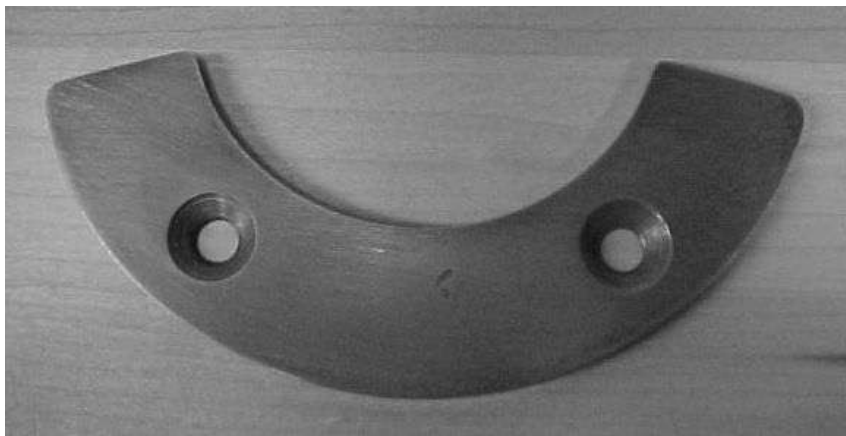

Figure 4
4. Clamp the Plate to drill press table and using a countersink tool, machine the two holes (one side of Plate only) such that the supplied grade 8 screw heads protrude .040 inches maximum from the Plate surface. The finished Plate should appear as shown in Figure 4.